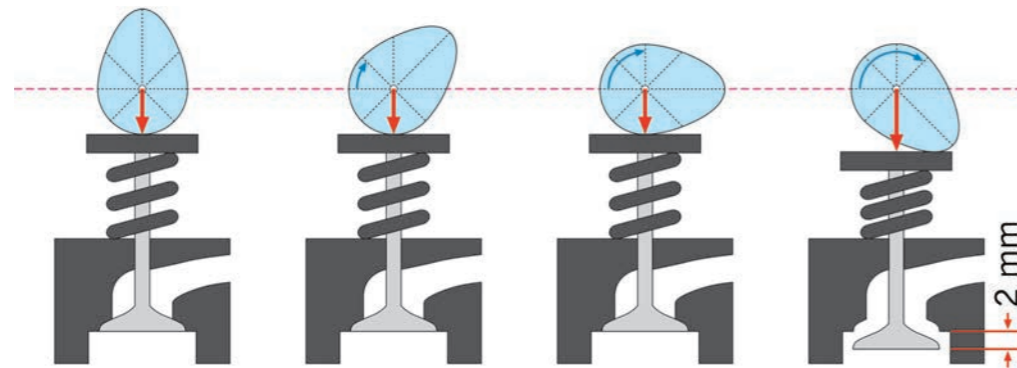

Figure 10:
Figure 10 shows how the rotation of a cam changes the position of a valve in an engine. The figure continues on the next page. Study this figure carefully before you answer the following questions.
- Copy and complete the table above to show how far the valve is open at different positions of the cam in Figure 10. Measure the distance that the valve is open.
Figure 10 above shows different positions of a cam and a valve as the cam is rotating. This is the way that the valves in most engines are opened and closed at the correct times.